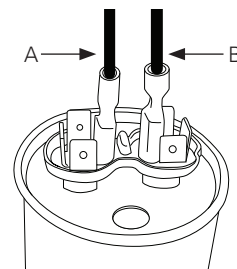

Fig. 4, Connecting Oil Capacitor
8. Connect wire (A) to the new replacement oil capacitor from the transformer and connect wire (B) to oil capacitor from P13 on the power distribution PCBA as shown in **Fig. 4**. Ensure that both wires shown in **Fig. 4** are not connected to the same group of capacitor terminals (this would short circuit the winding).